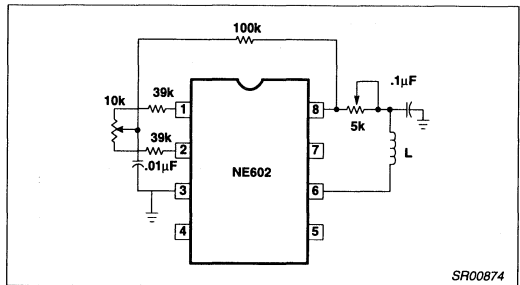

Figure 35. Minimizing RF and LO Feedthrough
**A.** The RF and LO feedthroughs are due to offset voltages at the input of the mixer's differential amplifiers and the imbalance of the parasitic capacitors. A circuit, such as the one shown in Figure 35, can be used to adjust the balance of the differential amplifiers. The circuit connected to Pins 1 and 2 will minimize RF feedthrough while the circuit shown connected to Pin 6 will adjust the LO feedthrough. The only limitation is that if the RF and LO frequencies are in the 100MHz range or higher, these circuits will probably be effective for a narrow frequency range.